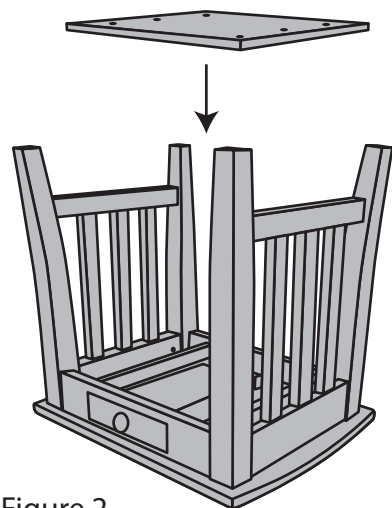

Figure 2
- 1) With the recessed holes facing up as shown in Figure 2, lower the bottom shelf into place lining up the holes on the cross board between the legs with the holes in the bottom shelf.